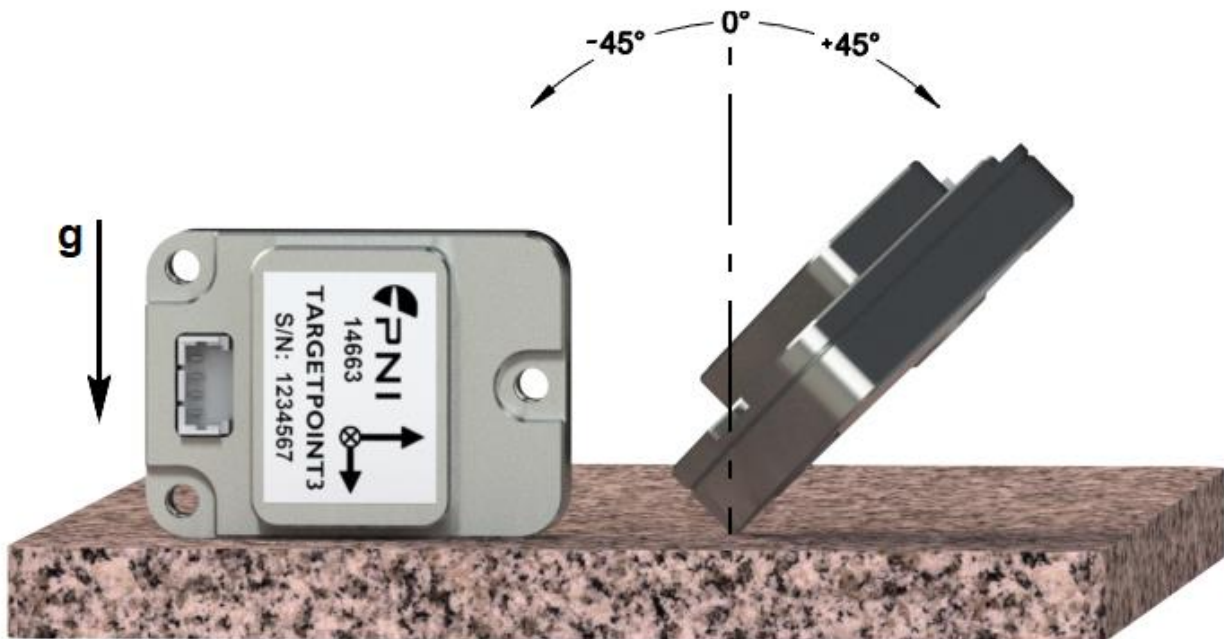

Figure 5-2: Accelerometer Calibration Starting Positions
Figure 5-2 shows the two basic starting positions for Accelerometer Only Calibration. Calibration can occur within the user's system or with the module alone. It is not necessary to place the TargetPoint3 on a flat surface as shown, but it must be held very still during calibration, and holding it against a stable surface is a way to help ensure this.
- Starting with the TargetPoint3 as shown on the left in Figure 5-2, rotate the module such that it sits on each of its 6 faces. Take a calibration point on each face.